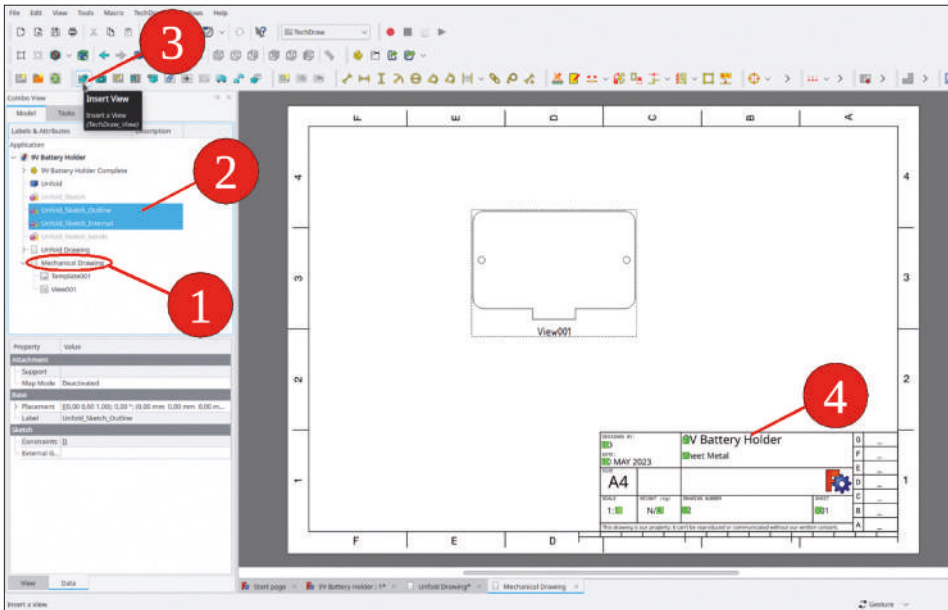

Figure 5-32
2. In the tree view, mark 'Unfold\_Sketch\_Outline' and 'Unfold\_Sketch\_Internal' and click the 'Insert View' tool button (Figure 5-32).